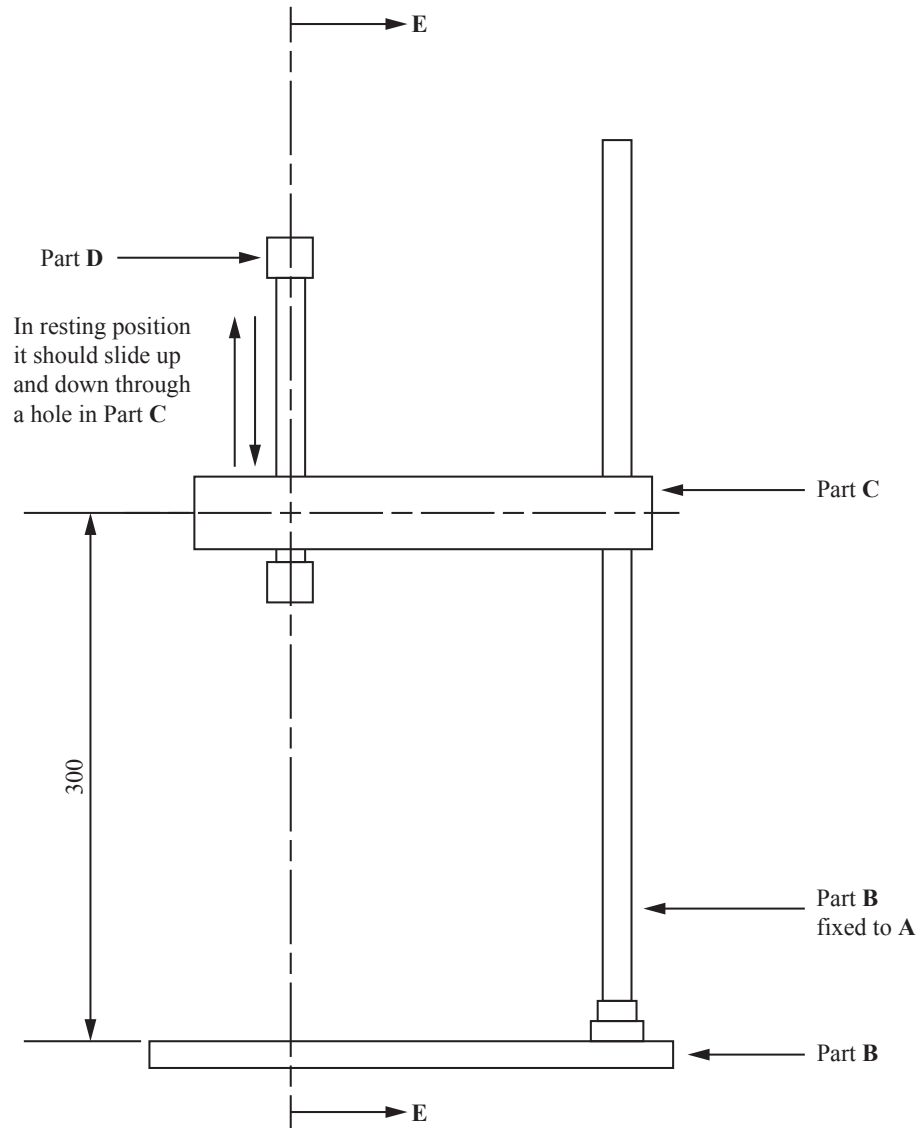

Fig 10 Light Duty Press Stand
- (b) A sectional end elevation taken along **Part D** to include details of quick releasing mechanism (**Section E – E**) in Fig 10. [5]